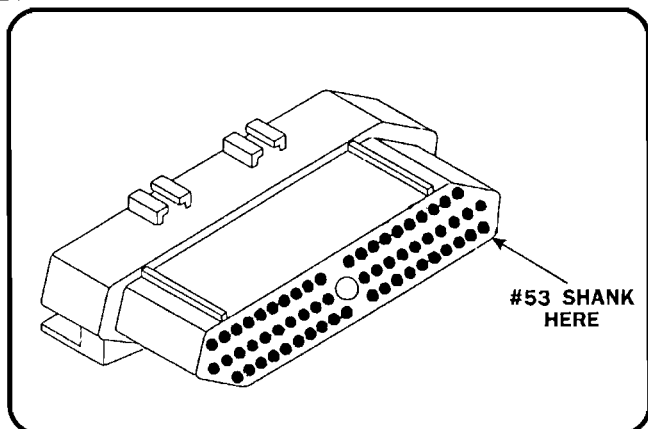

Figure 79
2. To check the 60 pin connector for the transaxle controller, use the shank of a #53 drill bit or a .0595 guage. See figure 79.